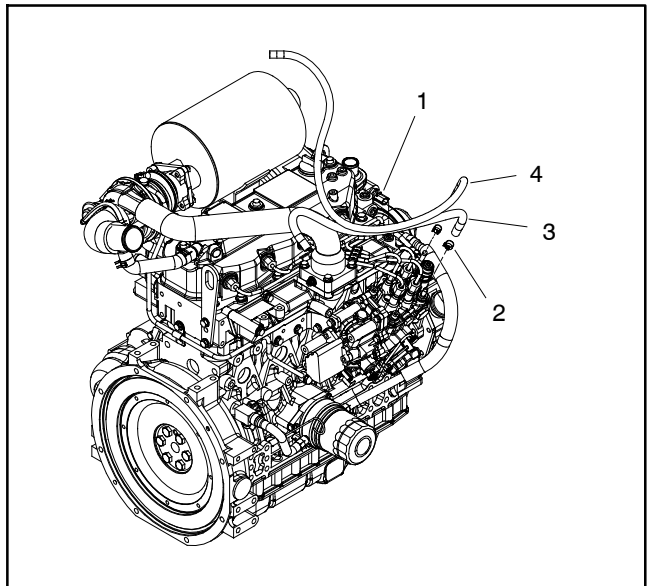

Figure 80
2. Disconnect fuel pump discharge hose from the fuel injection pump fitting on the engine (Fig. 80).